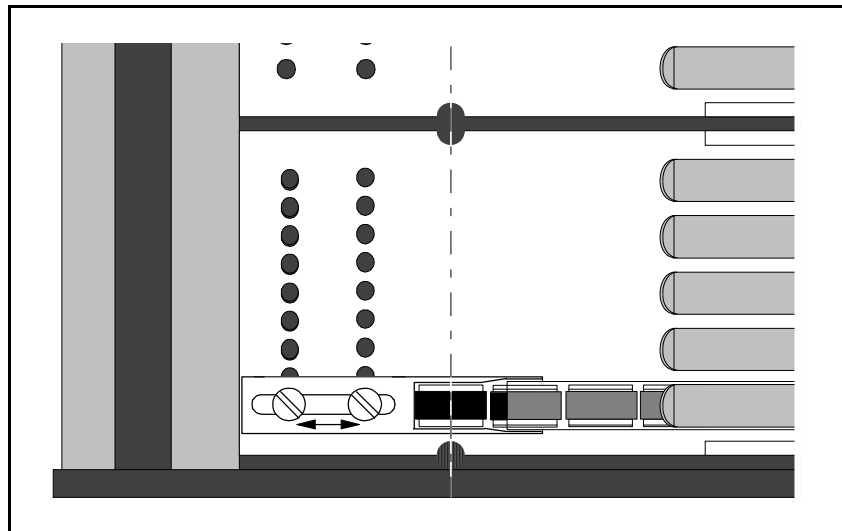

Figure 6-4. Component stick and positioner.
The center of the pick position is marked with a notch in the positioner and recesses in the bottom plate, see Figure 6-4.
4. Adjust the positioner if the component is not in correct pick position, see the arrow in Figure 6-4.
The described location applies to the X direction only. In the Y direction, the positioner has to be adjusted mechanically, see the arrow in Figure 6-4.